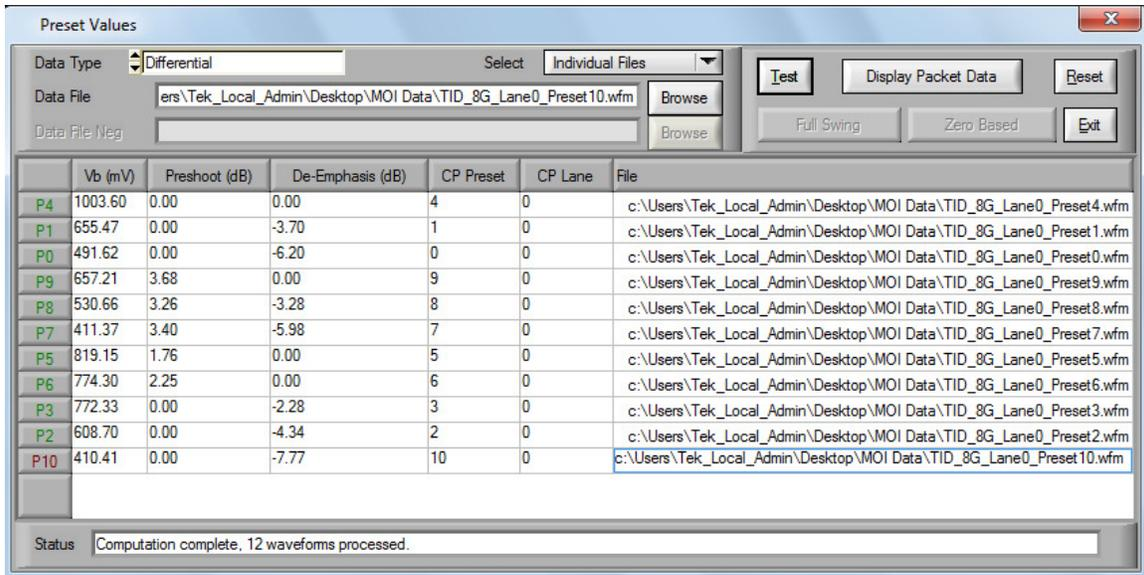

Figure 32. SIGTEST Preset results
15. Click on “Acquisition” tab. Refer to Figure 32.
26. Click on "Acquisition" tab. Refer to Figure 32.